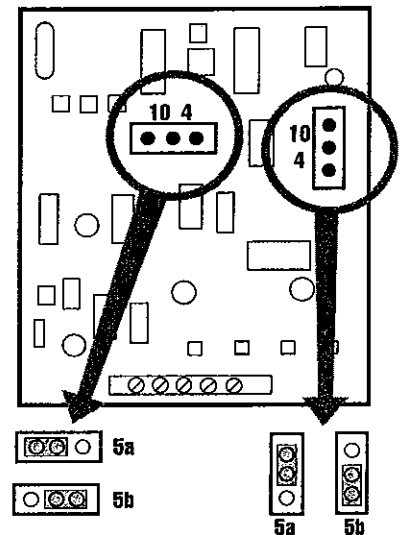

Figure 5
- B. Timer Board Setting - With the dryer de-energized, (Power-on light extinguished) verify position of the Cycle Time Jumpers. The jumpers are located on the timer board in the cabinet. Refer to Figure 5.